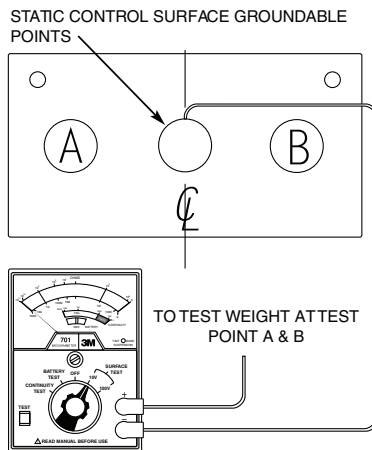

Figure 5-5: Material Evaluation Surface to Surface Test
- E. Surface-to-surface Test: Test samples as shown in Figure 5-5; use both test weights and repeat the same test procedure used to determine (RTS-GP).